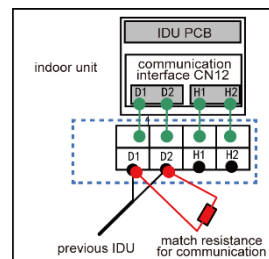

Fig 5.3.2
- (4) Fix the communication cable with clamp of electric box.
- (5) For more reliable communication, make sure connect the terminal resistor to the most downstream IDU of the communication bus (terminal D1 and D2), as shown in fig 5.3.2, terminal resistor is provided with each ODU.